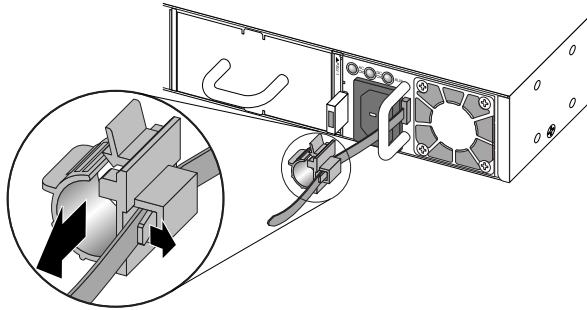

Figure 200: Moving the Power Cord Retainer
- a. If necessary, slide the plastic cord retainer farther away from the back of the switch (see Figure 200).